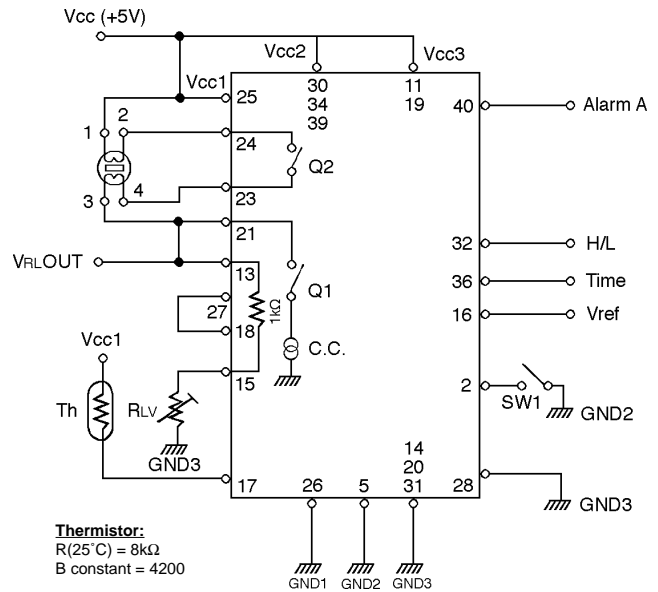

Fig. 3 - Basic application circuit
The basic operation circuit of the TGS203 is shown in Fig. 3. Load resistor ( $R_L$ ) consists of a variable resistor ( $R_{LV}^*$ ) and an internal fixed resistor ( $1k\Omega$ ), so  $R_L = R_{LV} + 1k\Omega$ . Connect Pin 2 to GND2 through SW1, which should normally be kept off. Then connect the thermistor ( $Th$ ) between Pin 17 and VCC1 (+5V) and supply the specified pins with a circuit voltage (VCC) of +5V. Upon doing so, the TGS203 will start to operate according to the preprogrammed sequence.
1) Prepare the circuit shown in Fig. 3. Turn off SW1 and set RLV at half the maximum value of RLV.